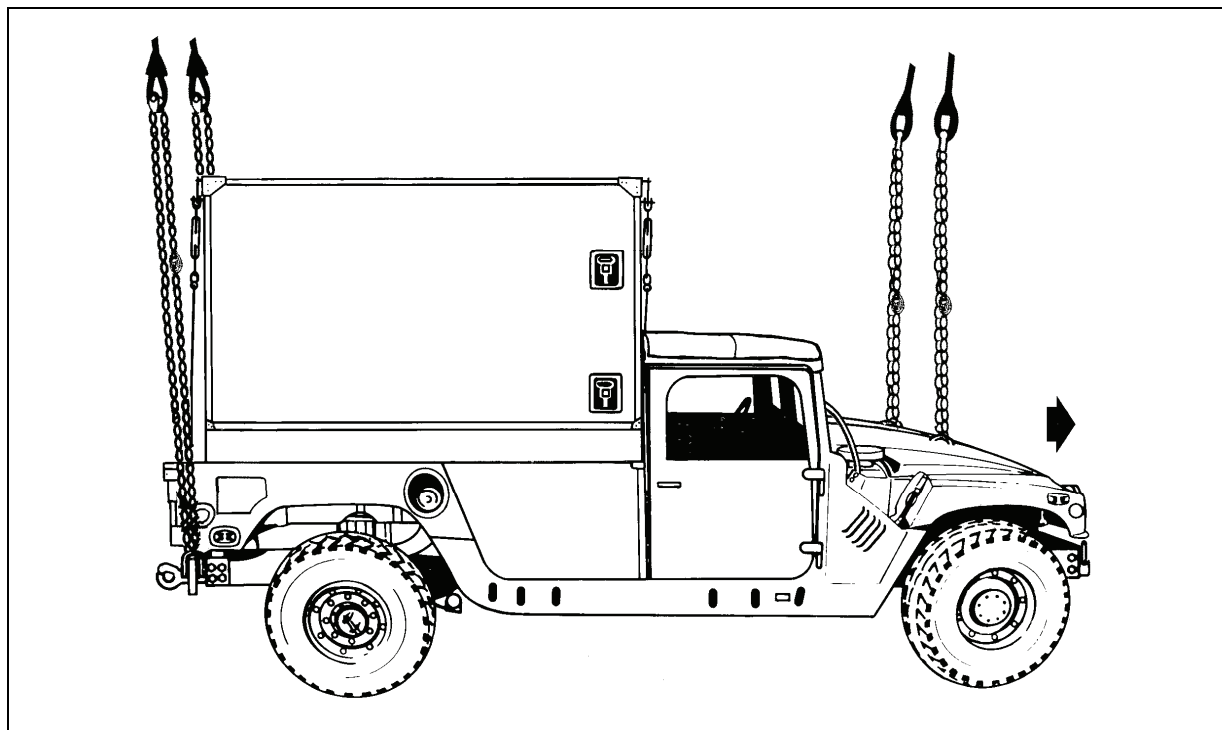

Figure 2-5. M1097 Shelter Carrier, Heavy HMMWV, with S-250 or S-250E Shelter
- **Rigging.** Rig the load according to the steps in Figure 2-5.